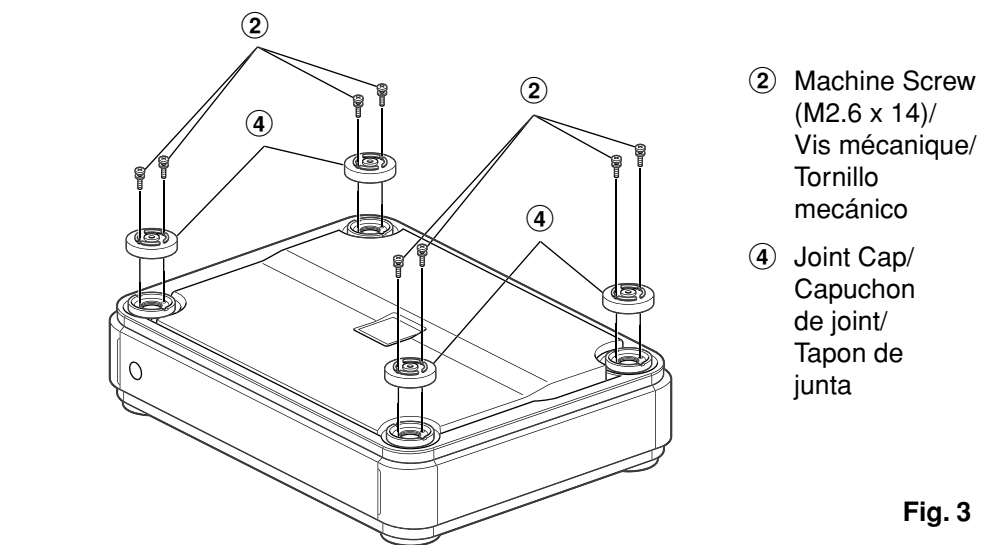

Fig. 3
- Attach the four joint caps in the four corners of the first unit with 2 machine screws (M2.6 x 14, supplied) per each cap. Refer to fig.3.